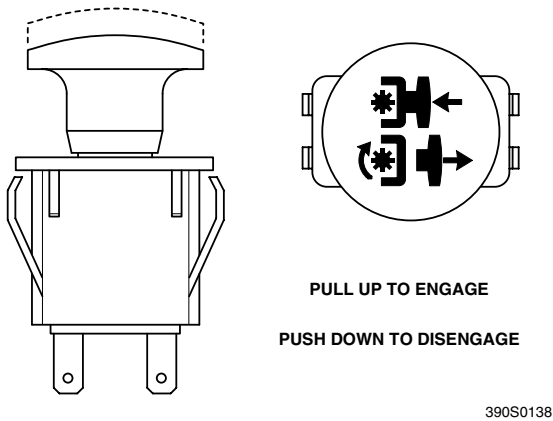

Figure 4-5. Cutter Engage Switch
2. Engage the deck drive by pulling out on the yellow switch, located on the instrument panel, to the engage position. See Figure 4-5.